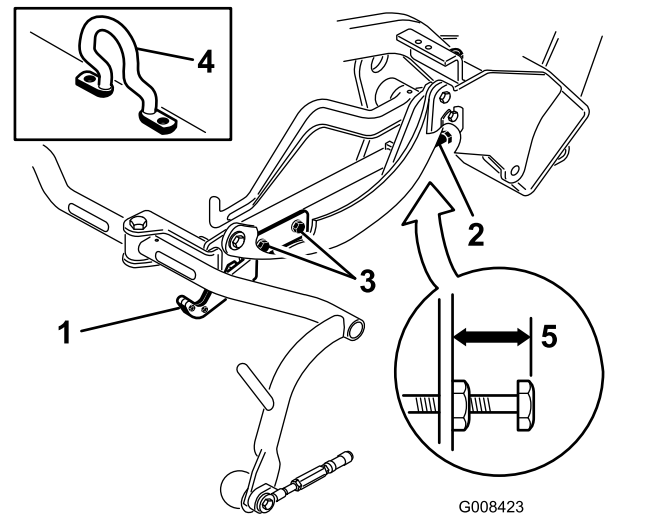

**Figure 11**
- Ensure that there is approximately 13 mm (1/2 inch) of the threads exposed on each reel-drive-motor mounting bolt (Figure 11).
8. Coat the motor spline shaft with clean grease and install the motor by rotating the motor clockwise so that the motor flanges clear the studs. Rotate the motor counterclockwise until the flanges encircle the studs (Figure 11).
9. Tighten the mounting bolts (Figure 11).